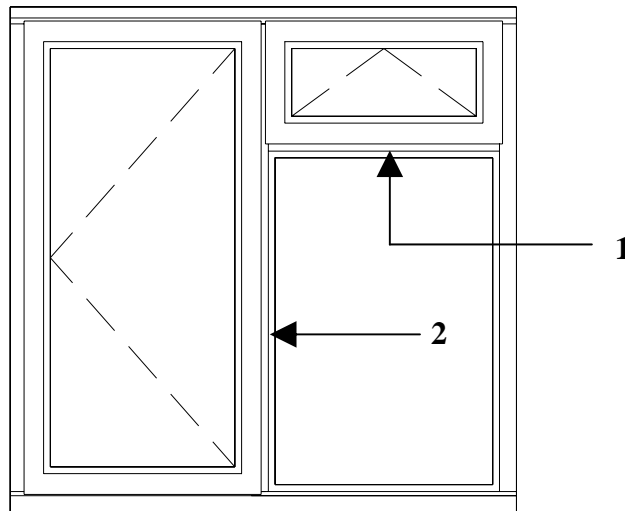

Figure Q5
5. (a) State the name given to the type of window shown in **Figure Q5** and name the parts of the window numbered 1 and 2.